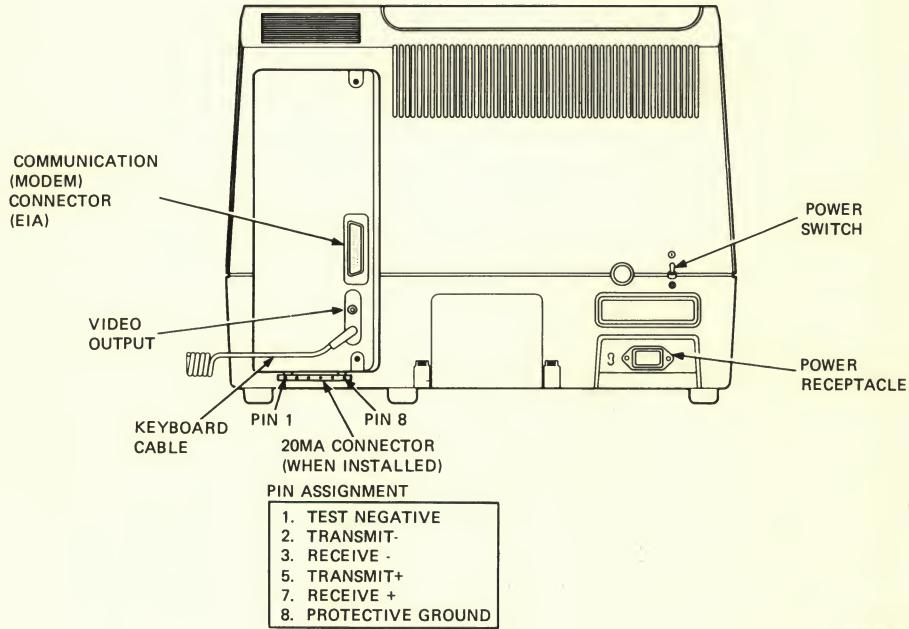

Figure 7-1 20 mA Connector and Pin Locations
This option is an interface that connects the terminal to a computer. The 20 mA option is a board and interface connector. Figure 7-1 shows the 20 mA current loop interface connector and pin assignments.
1. Turn the power switch to the off (0) position (Figure 7-1).